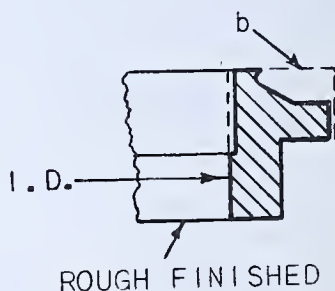

FIG. 216 — Step 4
4. Release the clamps, have the craneman turn the job over, and place the ring with the rough-finished side down on the table as shown in Fig. 216. Use parallels as before.
The dotted line in Fig. 216 indicates the metal that is to be removed at the next cut.
7. Set the tool to take a “clean-up” cut on the inside and outside diameters as shown by the dotted line in Fig. 216.
8. Select the correct cutting tool for “roughing out” the metal in the area indicated at *b* in Fig. 216.